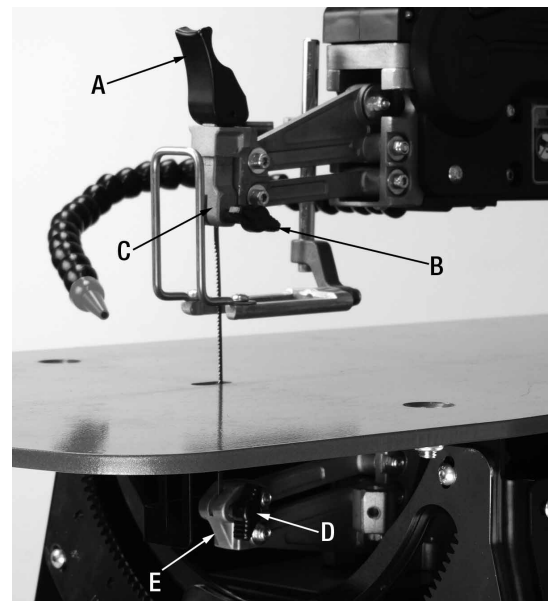

FIGURE 10
- 1) To remove a saw blade, flip the blade tension lever (A) upwards as shown in Fig.10. Loosen the upper lock knob (B) on the upper blade mount (C), and loosen the lower lock knob (D) on the lower blade mount (E).
- 5) Retighten the upper lock knob and lower lock knob, lower the blade tension lever, refer to Fig.10.
- 2) With the blade secured properly and the blade tension lever (Fig.10) in the down/locked position, pluck the blade like the string of an instrument. If it is properly tensioned, you will hear a clear note.
2. Lift the blade tension lever (A) Fig.10. Loosen the blade lock knob (B).